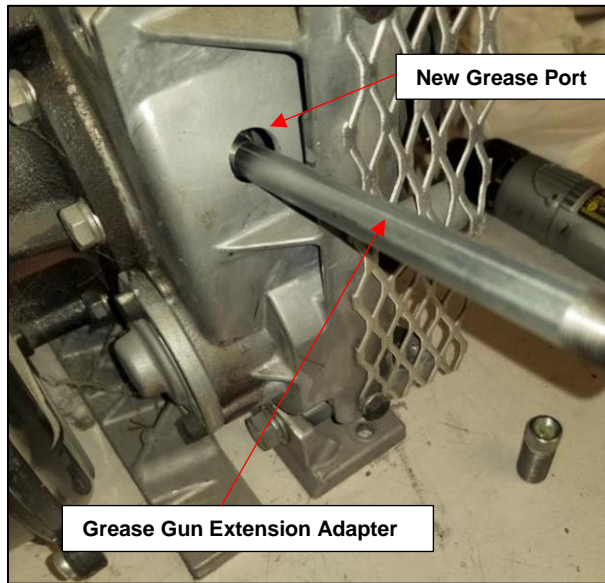

Figure 3: Air Compressor Grease Port Drilling Location.
- a. Using a Powerex grease gun (Special Tool P/N 6403621) and extension adaptor (Special Tool P/N 92583130), engage the grease fitting, then use an Allen key to loosen the nut on the gun to start pumping. Apply the correct amount (three strokes of the grease gun handle) of Powerex grease NF P/N 6403622. Refer to Figure 3.